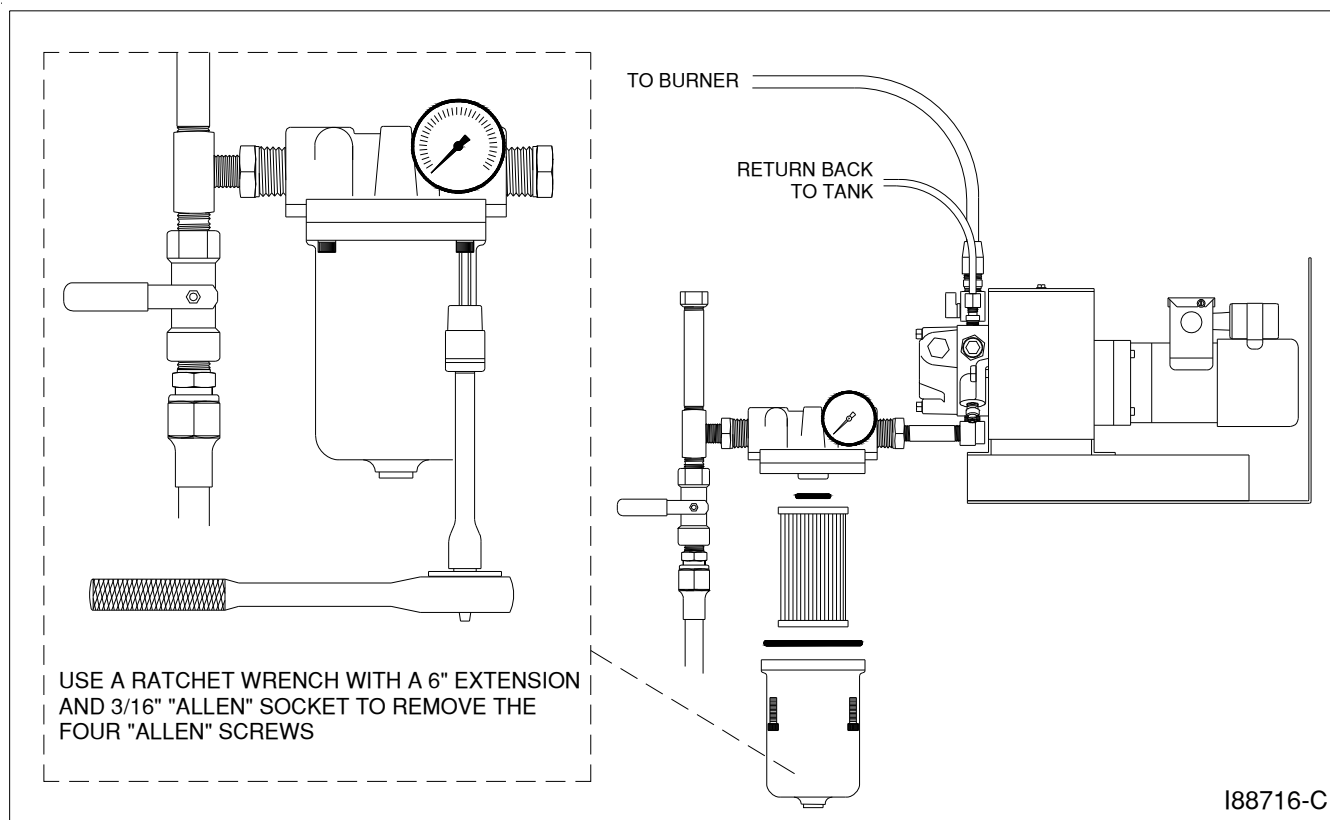

Figure 9B - Canister Filter Component Detail
6. Referring to Figure 9B, examine the filter components as you reassemble them.